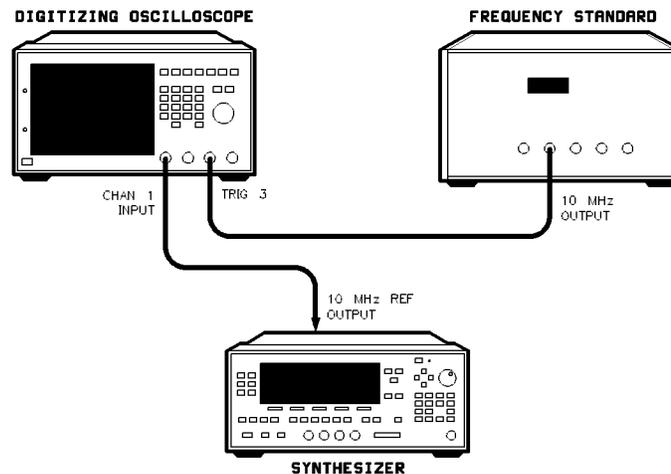

Figure 2-1. Internal Timebase: Aging Rate Test Setup
1. Connect the equipment as shown in Figure 2-1. Preset all instruments and let them warm up for at least one hour.